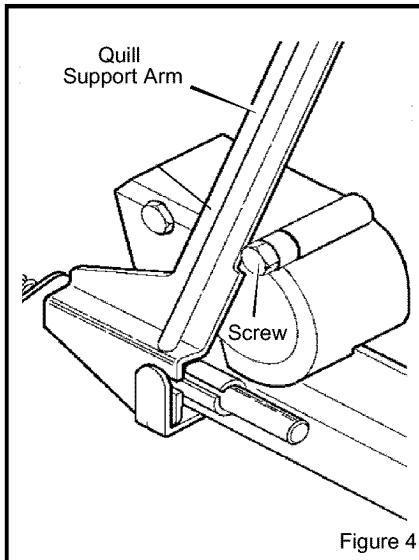

Figure 4
4. When the clutch lever is in NEUTRAL position, the **quill support arm** must be close to the **screw** as shown in Figure 4.